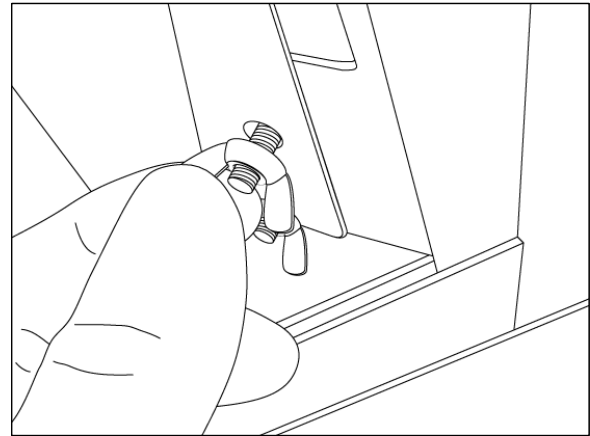

Figure 6-4
4. Loosen the wing nuts on the halogen light bulb support bracket in order to access the halogen light bulb (Figure 6-4).